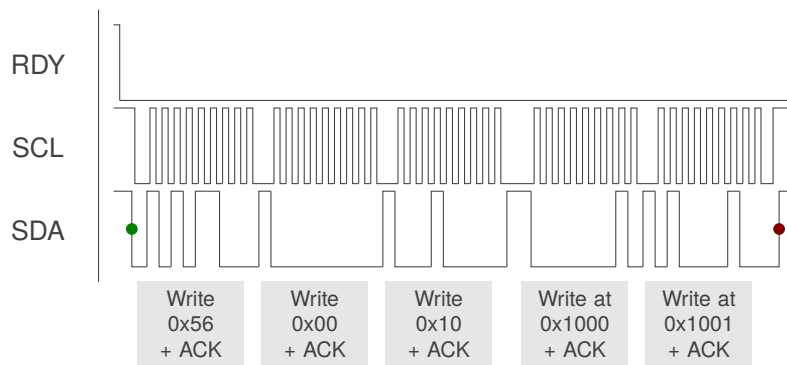

Figure 11.2: I²C Write Example — Write Two Bytes to System Control Registers 0x1000 and 0x1001
The write operation is displayed in Figure 11.2. Similar to the read transaction, when the RDY interrupt is triggered, the master initiates communication by sending a start condition followed by the device address and a write command. The IQS396 responds with an acknowledgement, after which the master device transmits two bytes defining the register address. The slave acknowledges the register address bytes. The master may then write a series of bytes to the register address and the addresses that follow, with each byte being acknowledged by the slave. The write operation is ended when the master produces a stop condition.
- > Write the new values back over I²C, as shown in Figure 11.2.